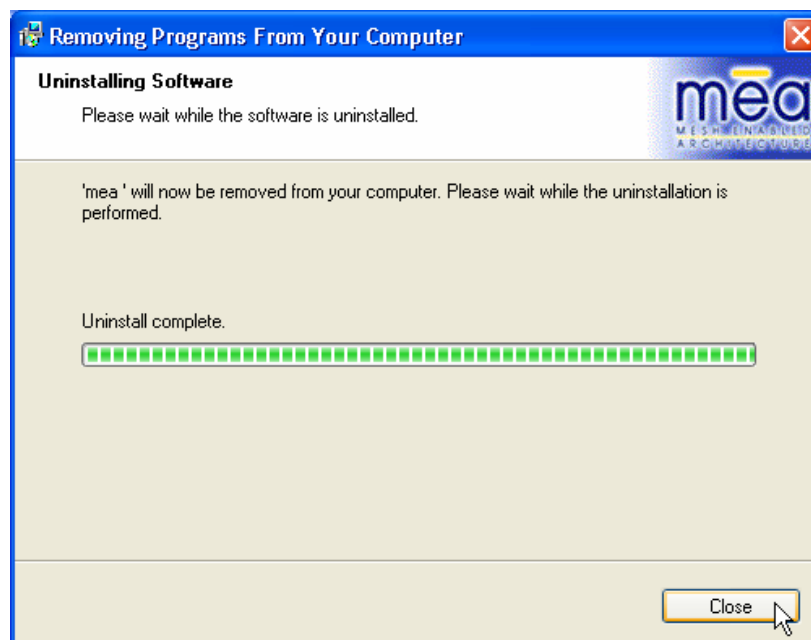

Figure 45. Removing Programs from Your Computer Dialog Box
3. The *Removing Programs From Your Computer* dialog box will be displayed while the MEA software is uninstalled as shown in Figure 45. When the Uninstalling Software process is complete, click on the **Close** button.